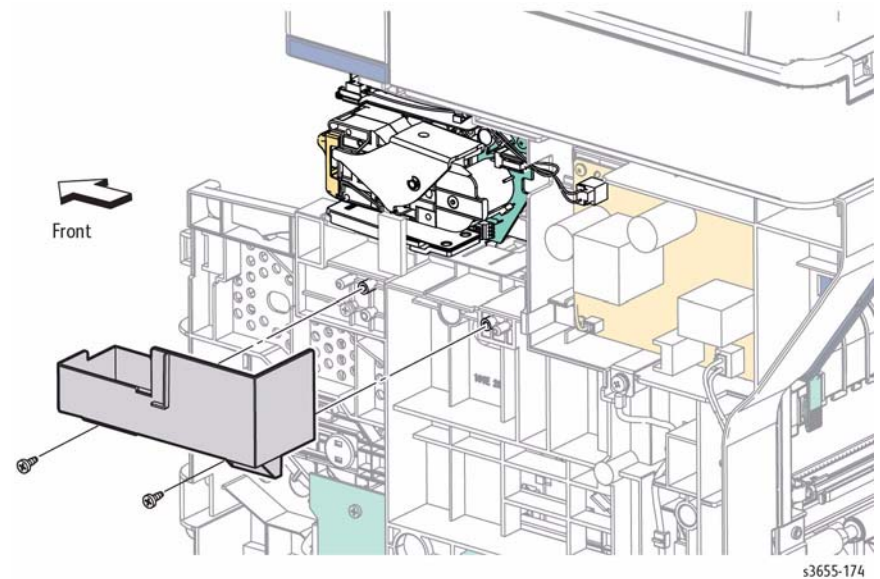

Figure 1 Remove the Stapler Housing
6. Refer to Figure 1 to locate and remove 2 screws (silver, tapping, M3, 8mm) that secure the Stapler housing.